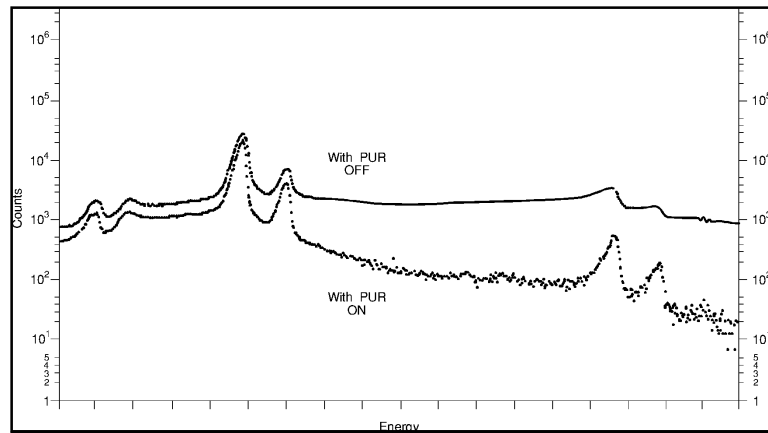

Figure 44 Comparing ^{57}Co Spectra with PUR On and Off
10. Compare the two spectra, LTC On and LTC Off, overlapping them with the compare function, as seen in Figure 44.